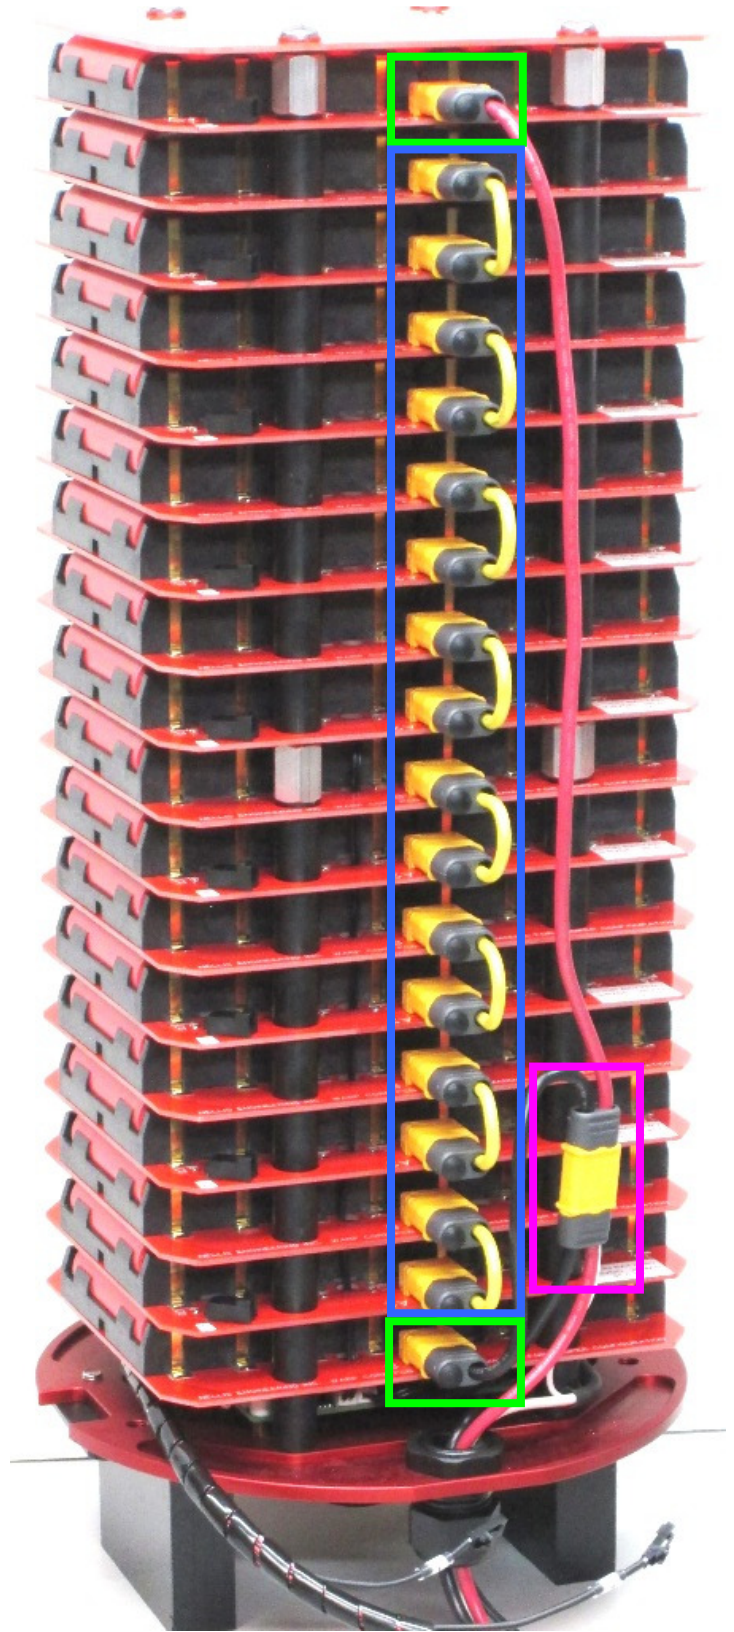

Figure 13
3. Connect the yellow connector with the single black wire to the very bottom layer and the yellow connector with the single red wire to the very top layer (Figure 13 – green outlines) DO NOT connect other end of harness yet.
4. Connect the 8 jumpers between the layers as shown (Figure 13 – blue outline) starting on the 2nd layer with the #1 label and working up.
5. Connect the remaining yellow connector with the red and black wires, to the mating connector on the aluminum mounting plate. (figure 13 – pink outline)
3. Remove the single yellow connector with red and black wires (Figure 13 – pink outline)